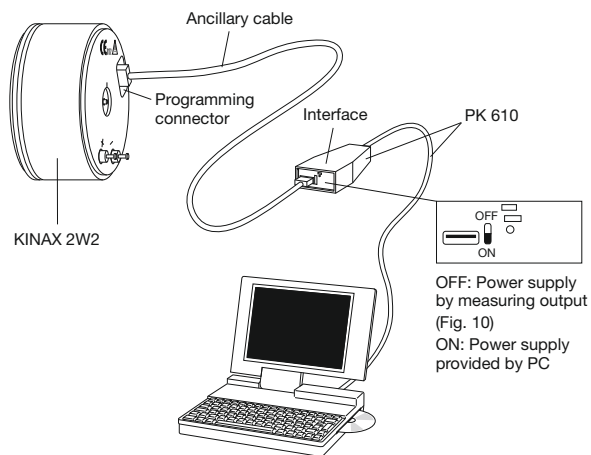

Fig. 7
Angular position transmitters of the KINAX 2W2 range do not require a mechanical zero position mark (however, this is made if required by the customer). After mounting, the transmitter can be moved to any position and configured using the 2W2 software. A power supply connection to the KINAX 2W2 is not required in order to use the 2W2 configuration software (Fig. 7; AUX switch on the PK 610 in the ON position).
1. Mount the angular position transmitter and mechanically connect it to the object to be measured. Connect the KINAX 2W2 to the programming device according to Fig. 7. Start the 2W2 configuration software. If necessary, configure the device with the required measuring range data.
1. Put the transmitter into operation and connect the programming device according to Fig. 7 (AUX switch on the PK 610 in the OFF position).